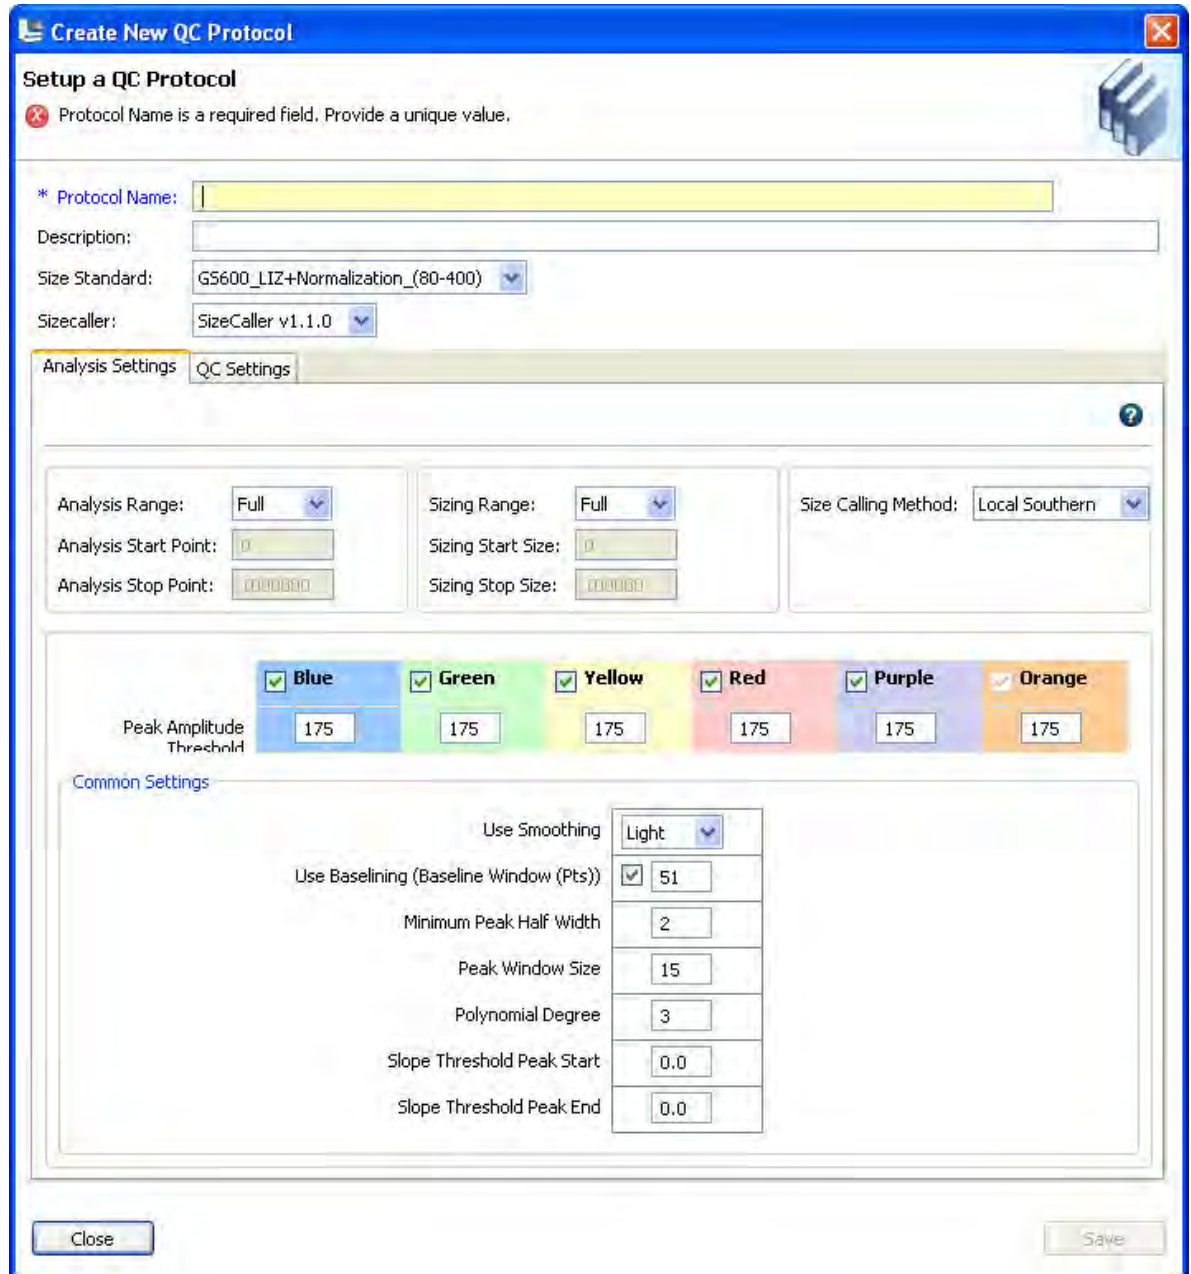

Figure 36 Create New QC Protocol—Analysis Settings
3. In the Analysis Settings tab of the Create New QC Protocol dialog box (Figure 36), specify settings (“QC protocol—Analysis settings” on page 214).